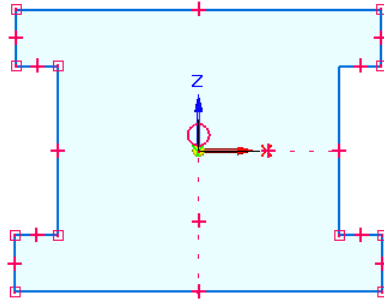

Figure 3-36 Profile after adding relationships
13. Press the ESC key to exit the current tool. The sketch after adding all relationships is shown in Figure 3-36. Notice that all the relationships handles are displayed on the sketch.